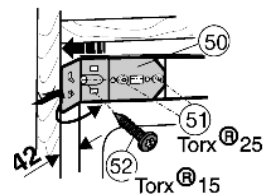

Fig. 23
- ▶ Screw the mounting bracket tight onto the unit wall with Spax screw ø4x19 Fig. 23 (52).
- ▶ Push the mounting bracket Fig. 23 (50) against the wall of the unit and tighten the two M5 screws, Torx 25 Fig. 23 (51).